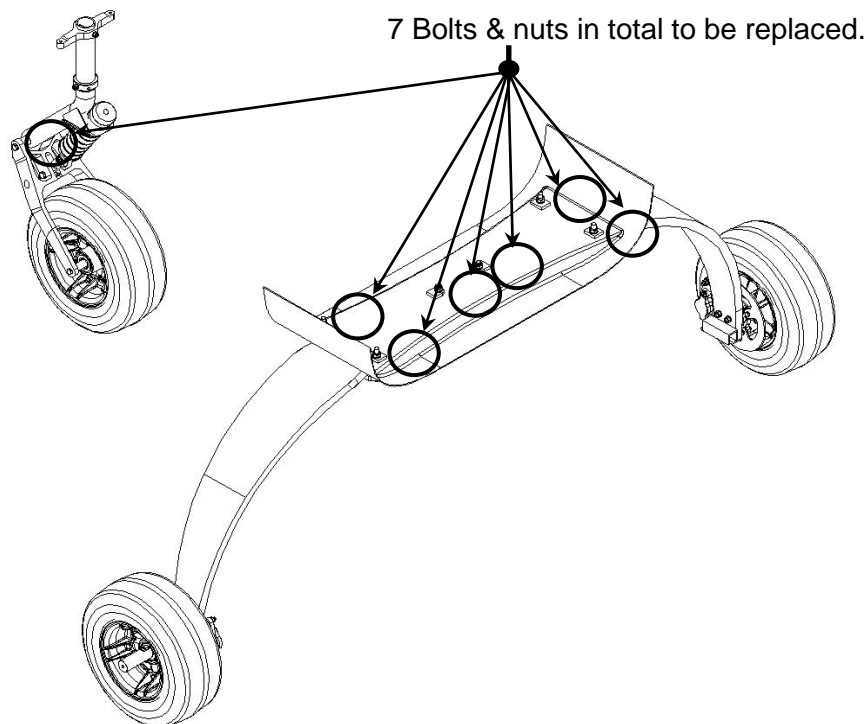

Figure 9 – Undercarriage
- Main undercarriage bolts and nose leg pivot bolts shown in Figure 9 are to be changed every 500 hours TIS.